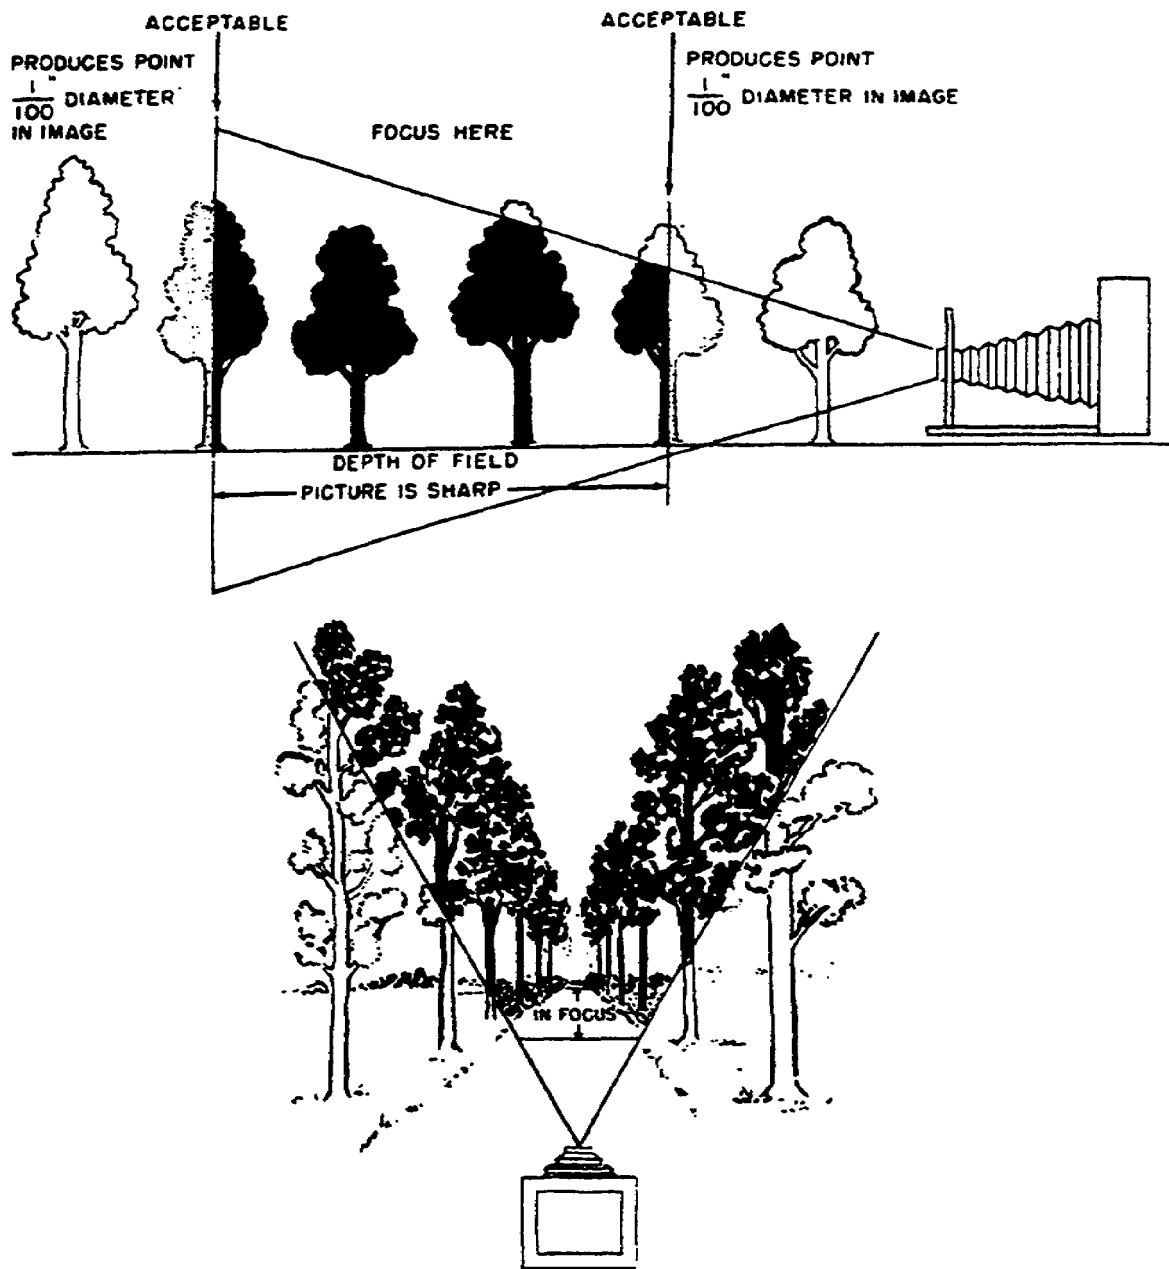

Figure 2-23. Depth of field.
a. Depth of field is the distance from the nearest point of acceptable sharp focus to the farthest point of acceptable sharp focus of a subject being photographed, (fig 2-23).